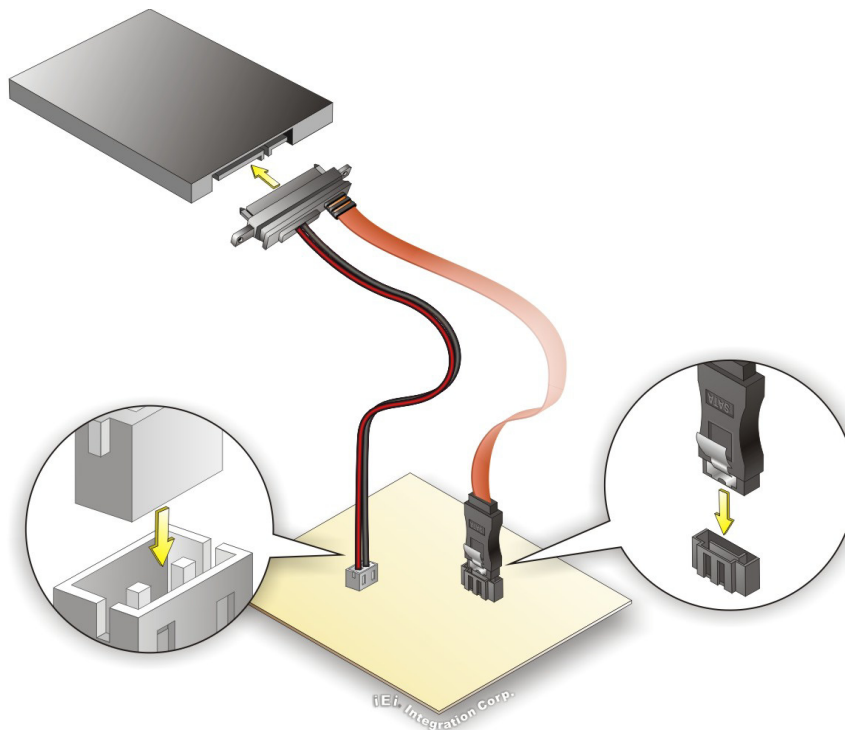

Figure 4-16: SATA Drive Cable Connection
- Step 2:** **Insert the cable connector**. Insert the cable connector into the on-board SATA drive connector and the SATA power connector. See **Figure 4-16**.
- Step 3:** **Connect the cable to the SATA disk**. Connect the connector on the other end of the cable to the connector at the back of the SATA drive. See **Figure 4-16**.